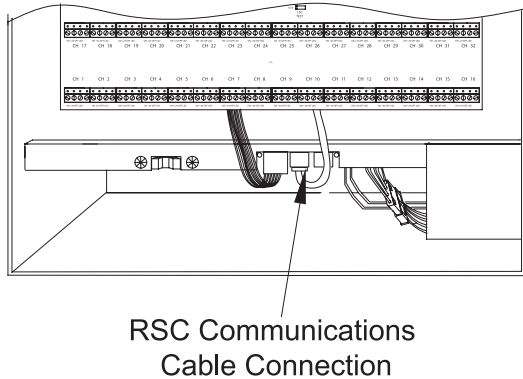

Figure 8. RSC Communications Cable Connection
4. Plug the communications cable (red CAT5 Cable provided) into the Relay Stack Controller Card (RSC) located at the bottom of the enclosure. This cable can be plugged into either of the two RJ45 jacks located on this board. See Figure 8 below.